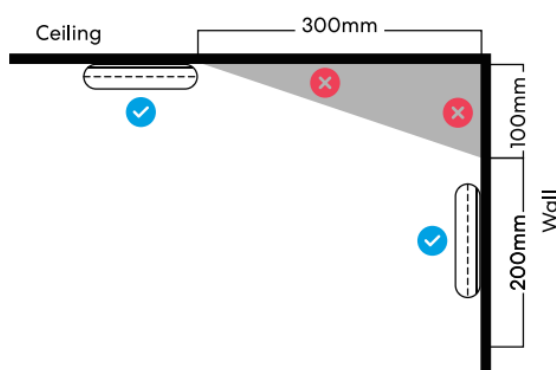

Figure 1
4. If the alarm can not be installed in the middle of the ceiling, install it keeping 300mm away from the corners. (see the figure 1).